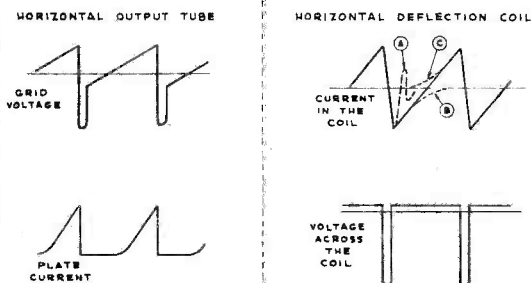

Figure 9—Horizontal Sweep Waveforms
During the latter part of the horizontal trace, the output tube conducts very heavily and builds up a strong magnetic field in the deflection coil and output transformer. When the negative pulse from the horizontal tube is applied to the output tube grid, its plate current is suddenly cut off and the magnetic field in the transformer and deflection coil begins to collapse at a rate determined by the resonant frequency of the system. Actually the system is shock excited into oscillation. Since the output tube is cut off and since the voltage generated by the collapsing field is negative on the reaction scanning tube plate so that it is non-conductive, there is essentially no load on the circuit and it oscillates vigorously for one half cycle. If the reaction scanning tube were not present, the circuit would continue to oscillate as shown in Figure 9 (A). This condition, however, is not permitted. One half cycle of oscillation is permitted because at the end of such a time the current in the deflection coil has reached a maximum in the opposite direction to which it was flowing at the end of the trace period. This reversal of the direction of flow of current was the requirement for retrace and it was accomplished in the allotted 7 microseconds.
As mentioned previously, if the coil were not damped, it would continue to oscillate at its natural frequency as shown in Figure 9 (A). To prevent such an oscillation the reaction scanning tube is brought into action. This tube is in a modified damper circuit which is effectively connected across the deflecting coil.
If no additional energy were fed into the coil, the field would fall to zero and the Kinescope beam would come to rest in the center of the tube. In such an r-l circuit, as the current approaches its final value, it does not do so linearly but asymptotically as indicated in Figure 9 (B). It is therefore necessary to have the output tube begin to supply power to the deflection coil before the energy in the coil is completely dissipated. Figure 9 (C) shows the shape of the current supplied by the output tube. Although the currents supplied by the output tube and by the decaying field are curved at the cross over point, together they produce a coil current that is linear.